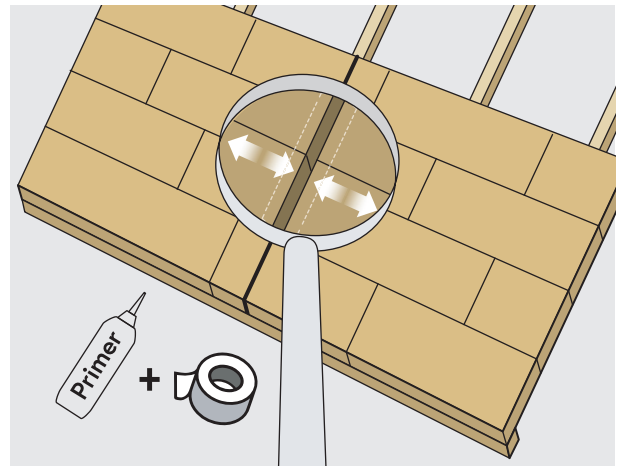

Figure 7
- Expansion joints are recommended for installation lengths of more than 20 m (Fig. 7). If expansion joints are provided in the existing building structure they are to be continued at the level of STEICO sheathing boards.